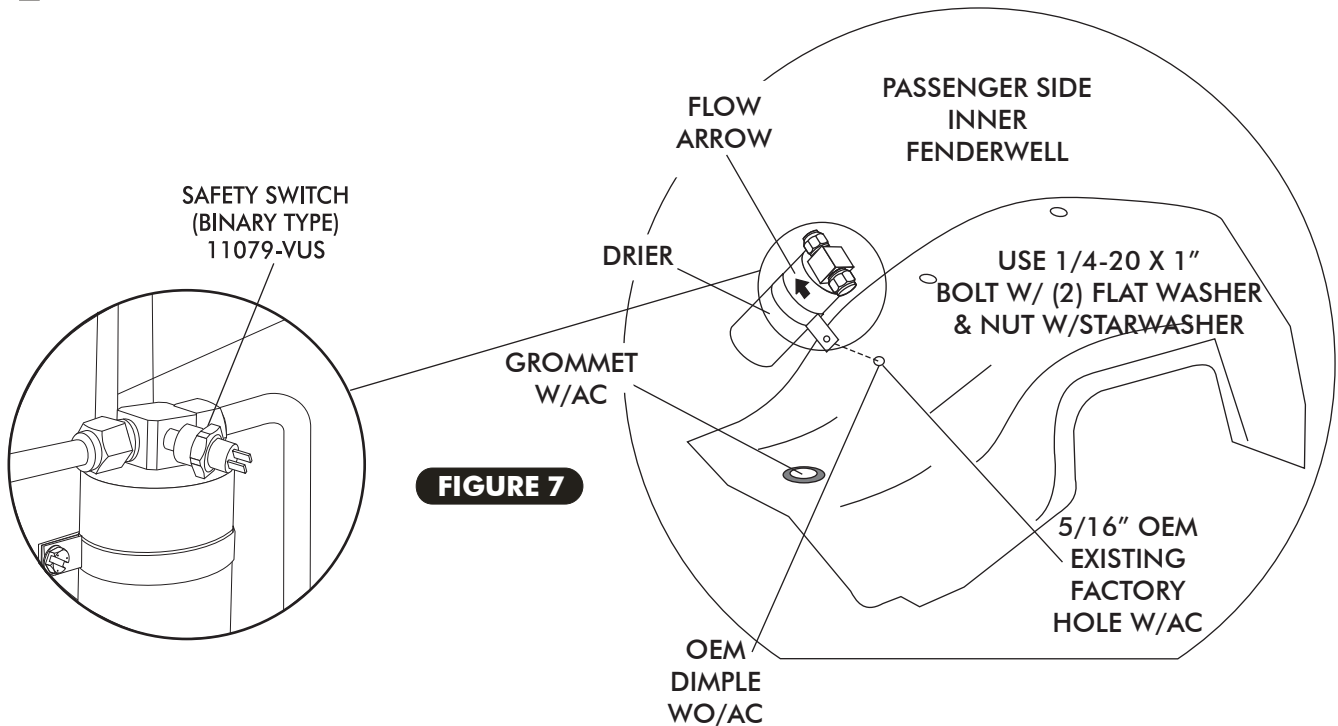

FIGURE 7
- NOTE: W/AC CARS USE LOWER 5/16" OEM EXITING FACTORY HOLE. SEE FIGURE 7.**
- NOTE: WO/AC CARS USE LOWER OEM DIMPLE AS A GUIDE AND DRILL 5/16" HOLE. SEE FIGURE 7.**